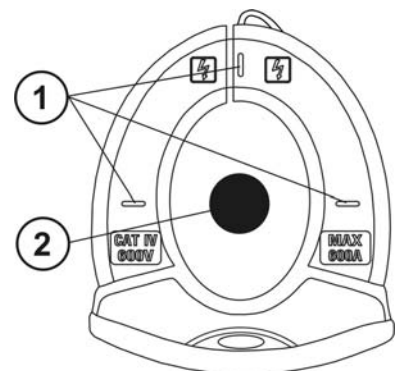

Fig. 6: Alignment marks
Put the conductor within the jaws on intersection of the indicated marks as much as possible (see Fig. 6) in order to meet the meter accuracy specifications
3. Put the conductor to be tested inside to the center of clamp jaw to perform accurated measurements. Consider the notches on jaws as reference (see Fig. 6). The reading will be displayed
3. Put the conductor to be tested inside to the center of clamp jaw to perform accurated measurements. Consider the marks on jaws as reference (see Fig. 6). The reading will be displayed